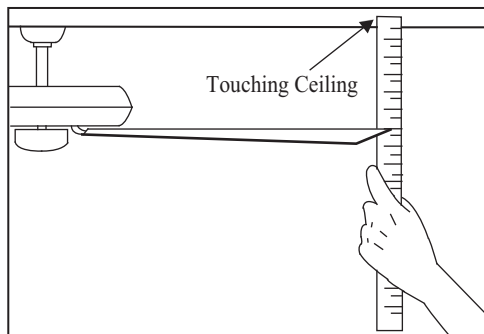

Figure 13
2. Most fan wobble problems are caused when blade levels are unequal. Check this level by selecting a point on the ceiling above the tip of one of the blades. Measure from a point on the center of each blade to the point on the ceiling. Measure this distance as shown in Figure 13. Rotate the fan until the next blade is positioned for measurement. Repeat for each blade. Measurements deviation should be within $1/8"$. Run the fan for 10 Minutes.